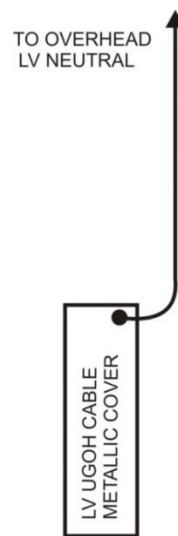

Figure 1 - Metallic UGOH Cover Bonded to Neutral
3.1.1.3 If the mechanical protection used on Service UGOH cables is metallic, the metallic protection cover shall be made of galvanised steel and shall be bonded to the neutral of the LV overhead mains as illustrated in Figure 1, in accordance with NS116.
- 3.1.2.3 If the mechanical protection used on LV Network UGOH cables is metallic, the metallic protection cover shall be made of galvanised steel and shall be bonded to the neutral of the LV overhead mains as illustrated in Figure 1, in accordance with NS116.